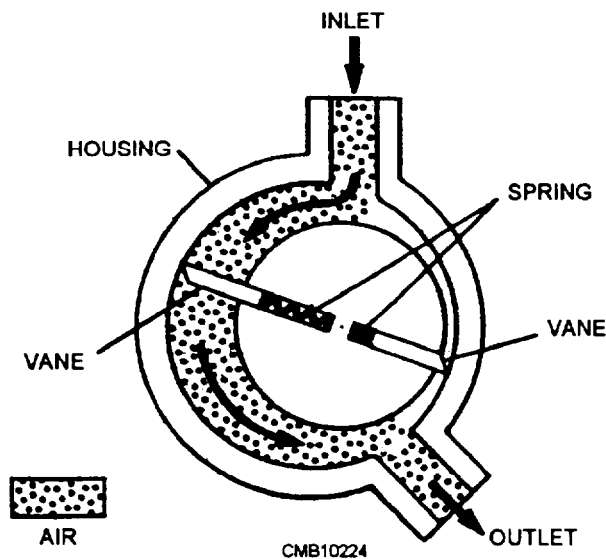

Figure 5-41.—Vane-type supercharger.
3. **Vane-type supercharger** (fig. 5-41). The vane-type supercharger has an integral steel rotor and shaft, one end supported in the pump flange and the other end in the cover, and revolves in the body, the bore of which is eccentric to the rotor. Two sliding vanes are placed 180 degrees apart in slots in the rotor and are pressed against the body bore by springs in the slots. When the shaft rotates, the vanes pick up a charge of air at the inlet port, and it is carried around the body to the outlet where the air is discharged. Pressure is produced by the wedging action of the air, as it is forced toward the outlet port by the vane.